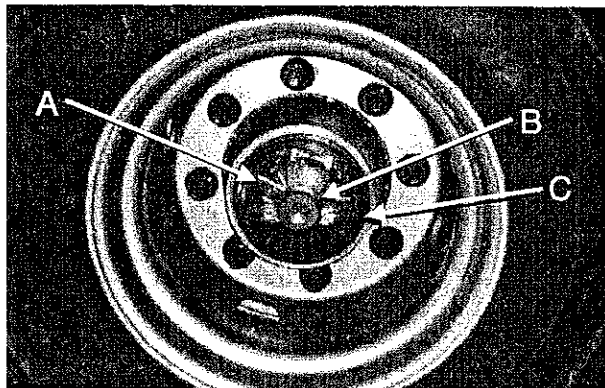

Figure 32. Wheel Hub.
**Spindle and Hub** - Drain the spindle and hub assembly by unscrewing the plastic hub cap (Figure 32-A). Replace the hub cap. Fill the spindle and hub assembly with SAE 90 weight oil through the access plug (Figure 32-B) in the center of the hub cap. Normal operating level is just below the access plug.